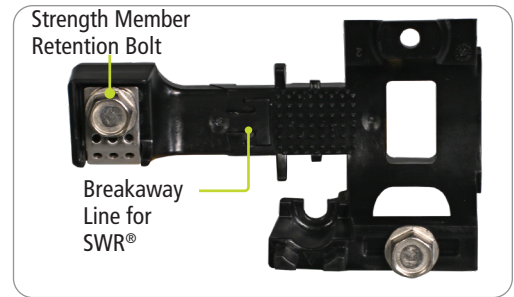

Figure 11
Parts of the CAU (Figure 11 and 12)
1. Remove the upper CSM retention piece and discard. (Figure 11)